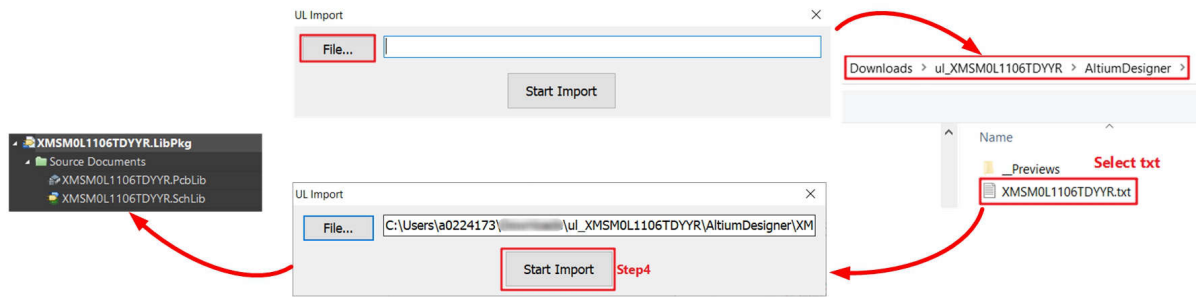

Figure 4-5. Generate Library
5. Generate the PCB library and schematic library as shown in Figure 4-5.